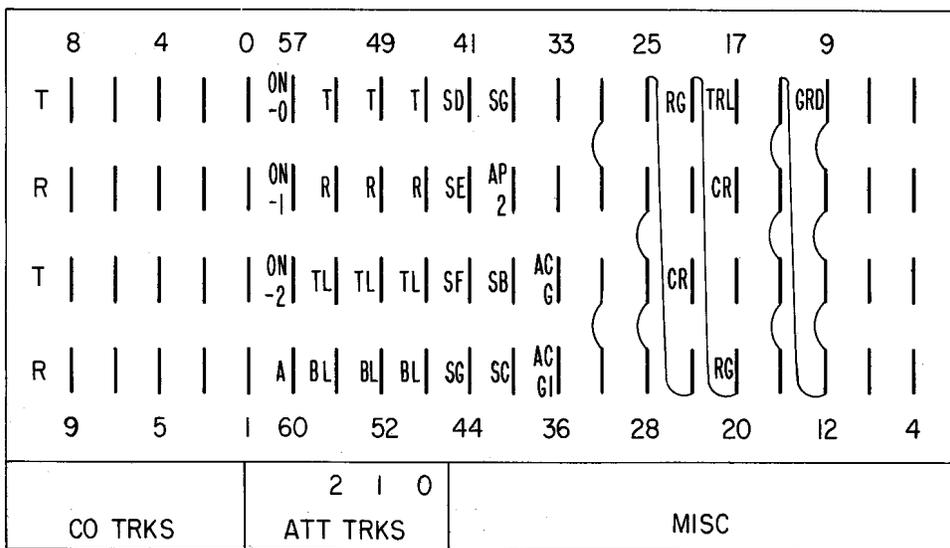

Fig. 8 – Miscellaneous Terminal Strip in Rear of 556A PBX
3.15 Plug in the house and feeder cable provided on the jacks of the line cutoff unit (3.09). Terminate the trunk and miscellaneous cable as shown in Fig. 8 and Table B.